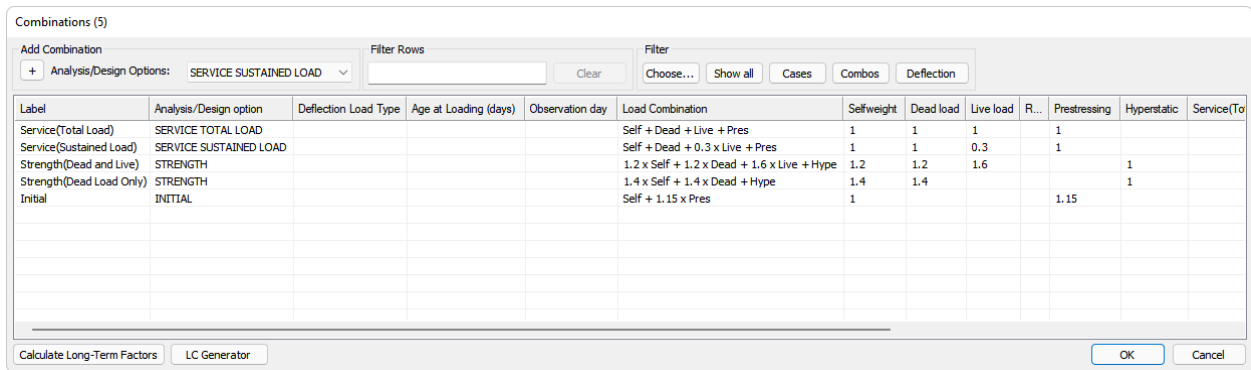

FIGURE 2-20
- Go to *Loading* → *Load Case/Combo*. Click on the **Load Combinations**  icon. This will open the *Combinations* window from **FIGURE 2-20**.